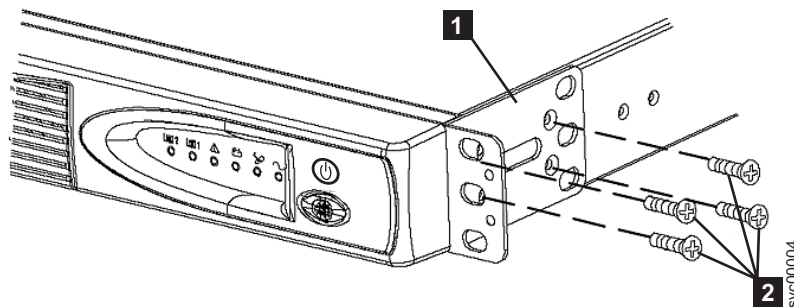

Figure 315. Installing the support rails for a 2145 UPS-1U into the rack
2. On each side of the 2145 UPS-1U, attach the long end of a mounting bracket to the 2145 UPS-1U using four of the supplied M3 × 6 screws ( **2** in Figure 315).